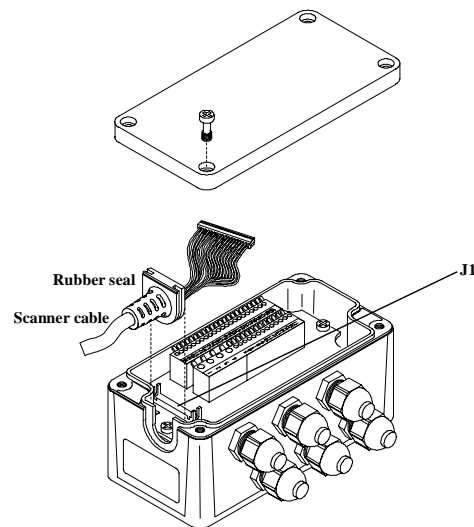

Figure 2.11 - Scanner cable connections to the JBOX
- 4) After wiring the JBOX and while the scanner is unplugged from the power supply (see Figure 2.11) –